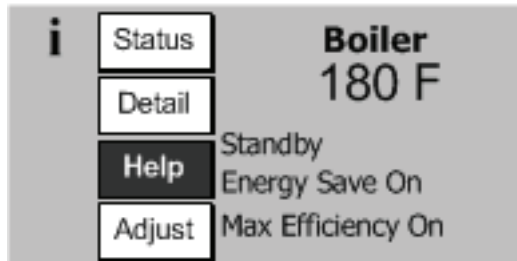

Figure 11.2c: Home Screen with Active Fault
- 13) If there is a problem that appears before the first try for ignition, or if the boiler fails to light after six tries for ignition, the blinking “HELP” highlighted on the Home screen (Figure 11.2c). Touching this “HELP” button will take the user to the Diagnostics menu where the cause of the problem can usually be found by pressing the flashing button on each successive screen.